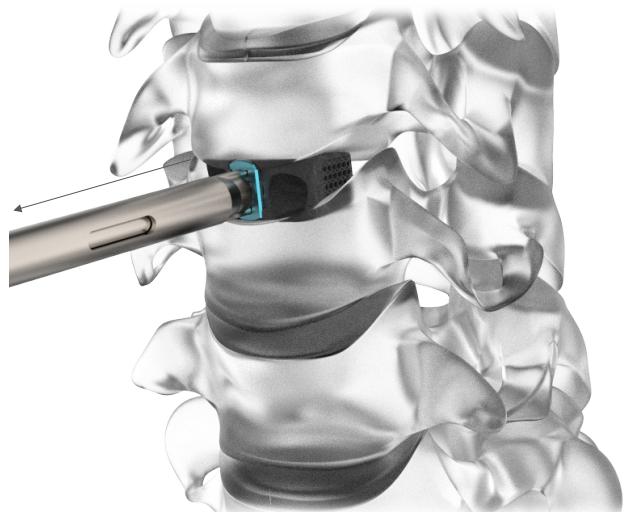

Figure 11
- In the event removal of the Nexxt Matrixx® Stand Alone Cervical-TL System is desired, utilize the Lock Tool and rotate the Turn Lock counterclockwise until bottomed out such that the Turn Lock is in an open position. Use a Screw Inserter to back out the Screws. Lastly, attach the Fixed Cage Inserter to the Cage and gently remove (Figure 11).